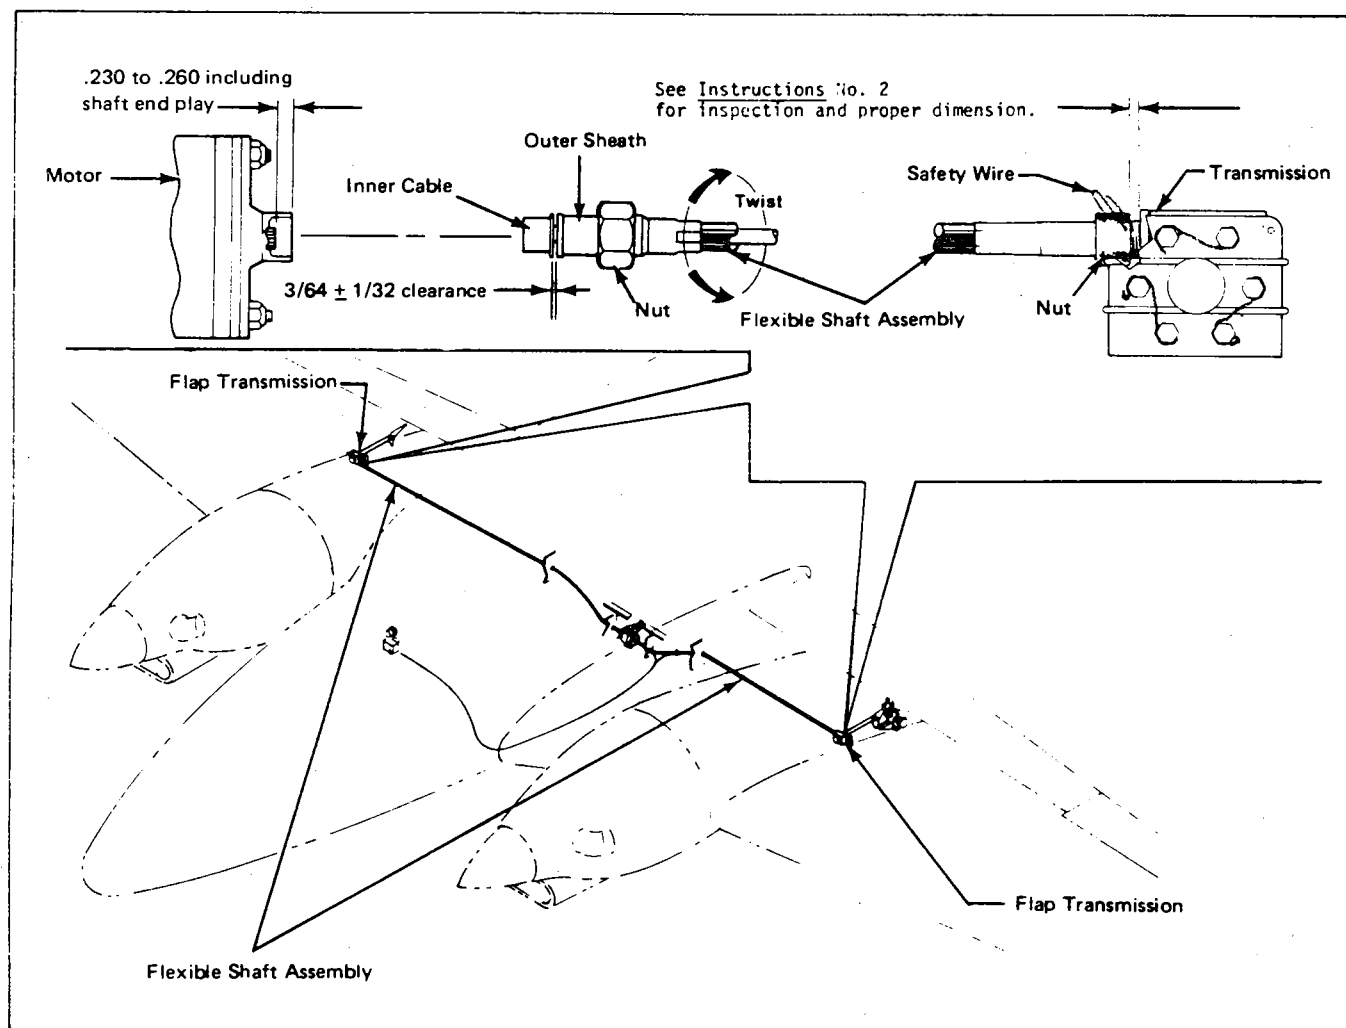

Figure 2. Wing Flap Actuator Cable
2. INSPECTION OF WING FLAP TRANSMISSION ACTUATOR SHAFT. (Refer to Figure 2.)
- 3. Twist outer sheath in proper direction (to lengthen or shorten), bringing clearance to  $3/64 \pm 1/32$  of an inch. It may be necessary to loosen clamp on fuselage bulkhead in order to twist outer sheath. (See Figure 2.)